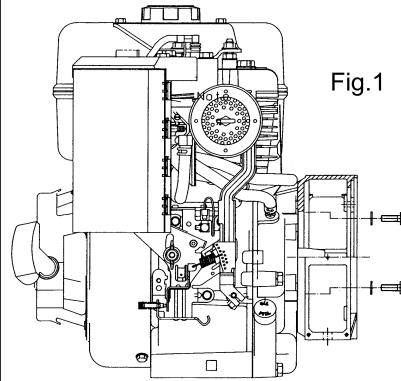

Fig.1
-) mount the front cover on the motor, fixing it with the appropriate screws and applying a tightening torque of  $48 \pm 7\%$  Nm if using M10 screws or  $21 \pm 7\%$  Nm for M8 screws (figure 1)